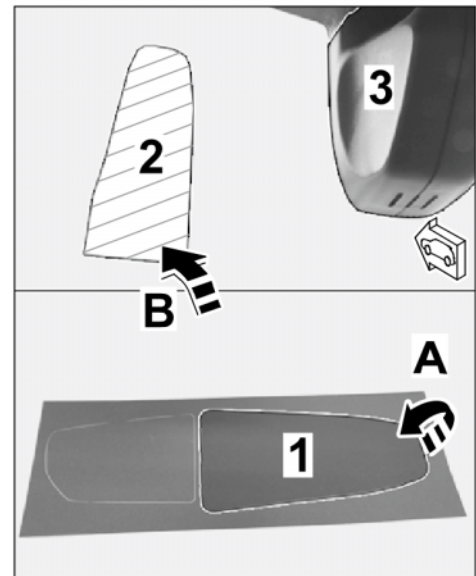

Figure 9
2.2.1 Pull 3M privacy film off the backing sheet (⇒ *Figure 9-A*).
2.2.2 Position 3M privacy film on the marked bonding surface on the windscreen (⇒ *Figure 9-B*).